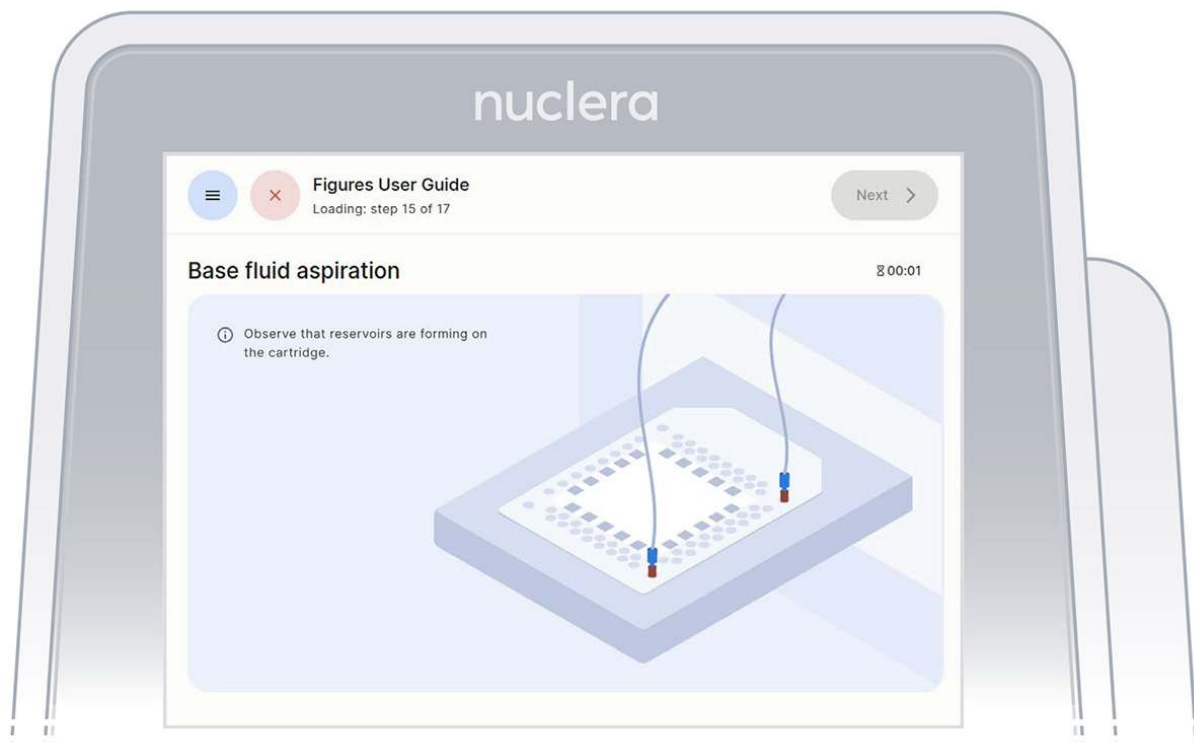

Figure 26: Base fluid aspiration
1. Press the **[Next]** button to start the aspiration of the base fluid and the loading of the reagents on the cartridge (Figure 26).